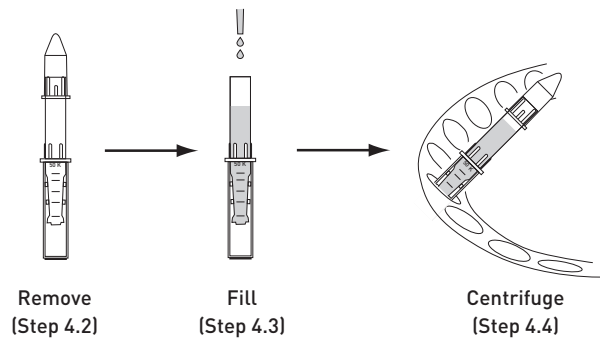

Figure 4 Wash the antibody concentrator
- 4.3 Add 2 mL of 1X Tris, pH 7.0 (or TBS) to the large antibody concentrator (Component I) as shown in Figure 4 (page 6).
- 6.2 Add 2 mL of 1X Tris, TBS, or PBS to the large antibody concentrator (Component B in SiteClick™ sDIBO Alkyne kits) as shown in Figure 4 (page 6).